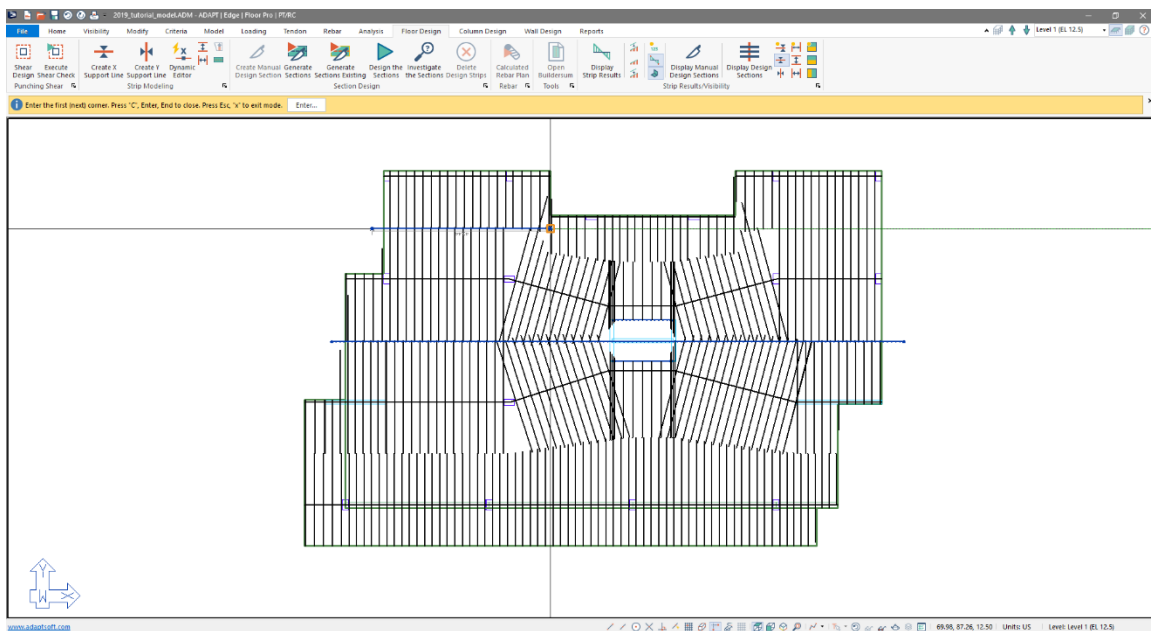

Figure 9-26
- Move your mouse to the right just under the slab at the re-entrant corner as shown in **FIGURE 9-26**.